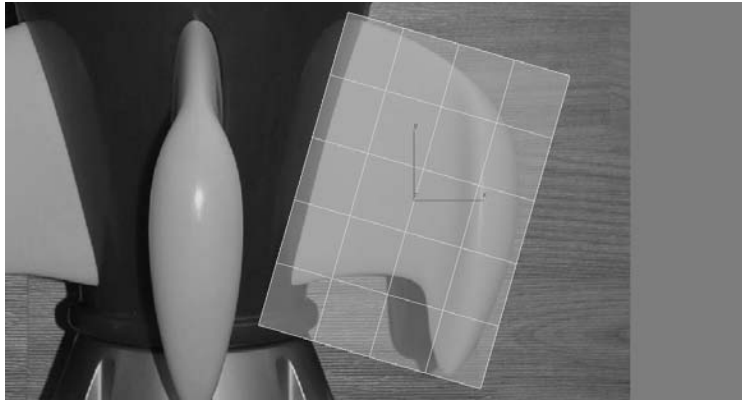

Figure 5.60
2. Press Alt+X to make the model see-through (if it isn't already). Now you should be able to see the image plane under the box you just created for the side fin shown in Figure 5.60.